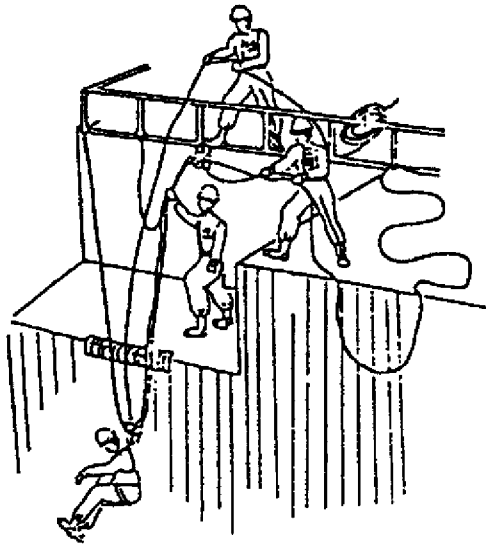

Fig. 7-23
(5) Rescue
- c. Repeat this process to lift the victim. (Fig. 7-23)